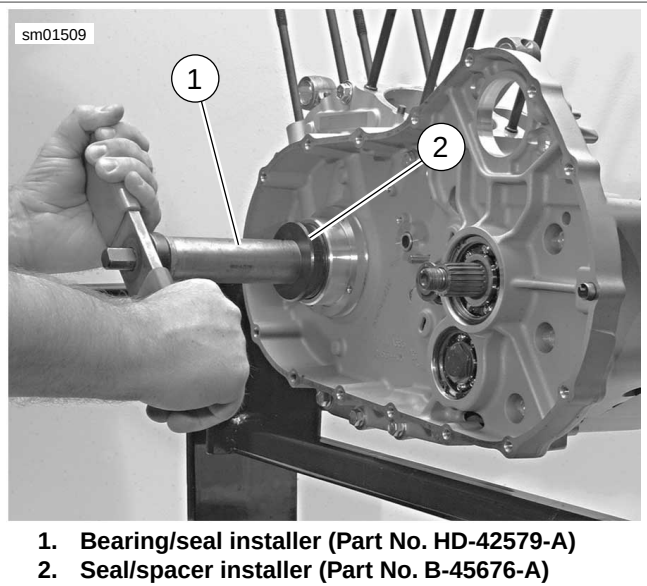

Figure 3-89. Install Bearing Seal/Spacer
8. See Figure 3-89. Install bearing seal and spacer.
- a. Center seal/spacer driver (2) over seal, so that the sleeve (smaller O.D.) seats between seal wall and garter spring.
- b. Assemble SPROCKET SHAFT BEARING/SEAL INSTALLATION TOOL (Part No. HD-42579-A) (1) and SPROCKET SHAFT SEAL/SPACER INSTALLER (Part No. B-45676-A) onto sprocket shaft.